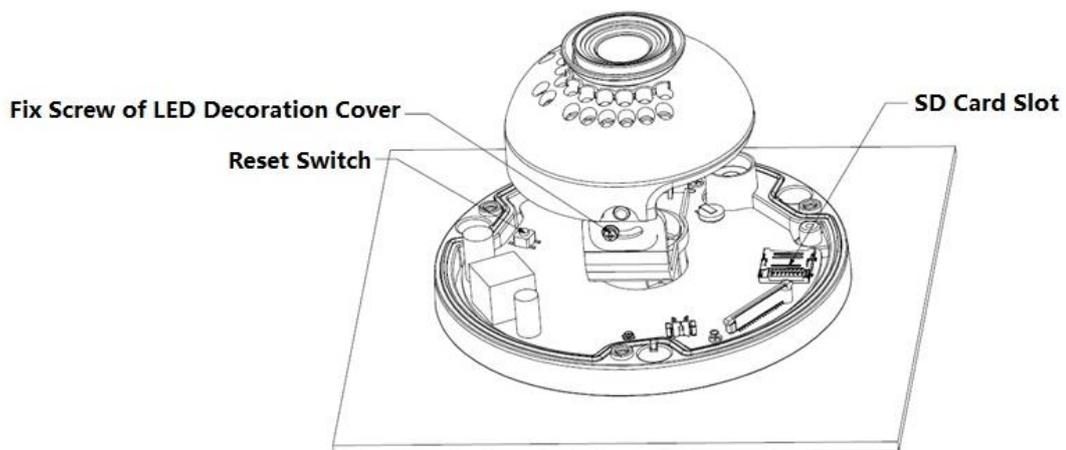
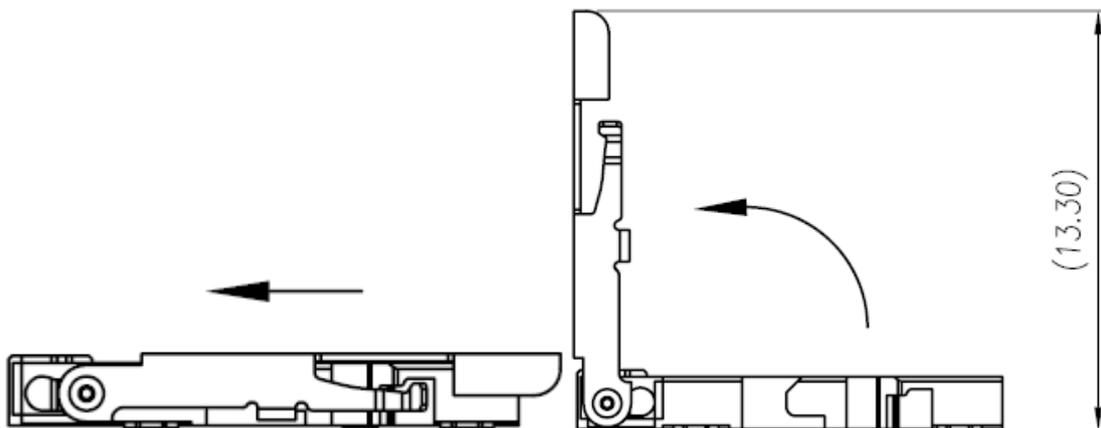

Figure 2-2
Figure 2-3 Micro SD Card installation illustration 1
- Long press the “Reset button” shown in Figure 2-3 for 10 seconds when the device is power on if the device needs to restore to factory setting.
- If the device needs to use WPS function, please short press the “Reset button” shown in Figure 2-2 for 1~2 seconds when the device is power on, press the WPS button of the router, generally the device can connect to corresponding router within 1 minute (only supported by some models).
Find the Micro SD Card slot in figure 2-2; open the Micro SD Card slot according to the direction in figure 2-3.